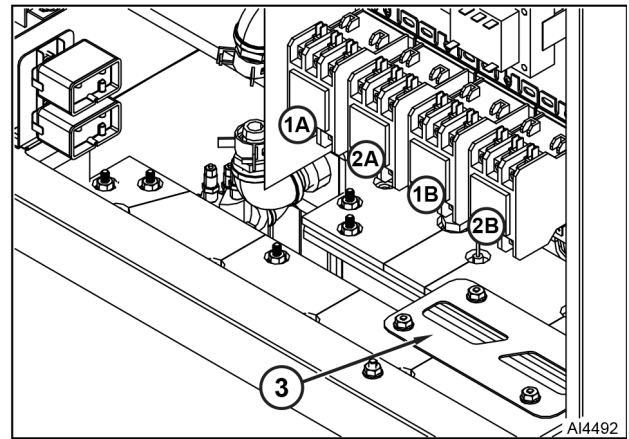

Fig. 23
4. Disconnect heating element lead wires from limiting contactor (1A or 2A) Fig. 23 and regulating contactor (1B or 2B).